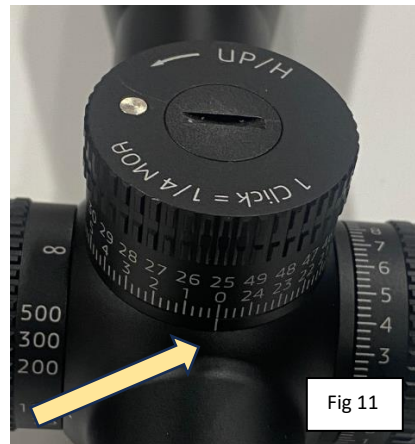

Fig 11
- Replace the turret ring onto the scope body and align the 0 on the turret ring to the indicator mark engraved on the scope body. (Fig 11). This function aligns the zero and **SETS** the ZERO STOP for allowing any further downward rotation. Tighten the center screw.